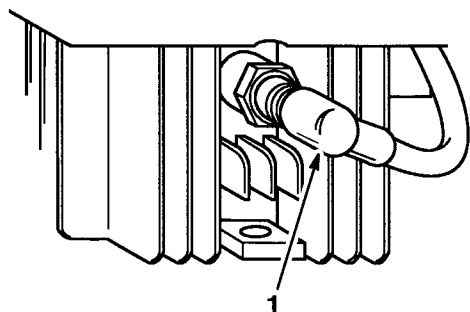

Figure 22
1. Pull wire off spark plug (Fig. 22). Remove spark plug and clean with a wire brush, removing carbon build-up. **DO NOT SAND BLAST.** Check condition of plug for cracks and damaged or worn electrodes. Replace if necessary.
3. Install spark plug by hand, then torque to 180 in.-lbs. (15 ft.-lbs.) (20 N·m) (Fig. 22).
1. Disconnect spark plug wire (Fig. 22).
**Note:** Blade nut must be replaced after installing and removing four (4) times. Locking feature will decrease and nut could loosen if not replaced.
5. Reconnect spark plug wire when maintenance is completed (Fig. 22).